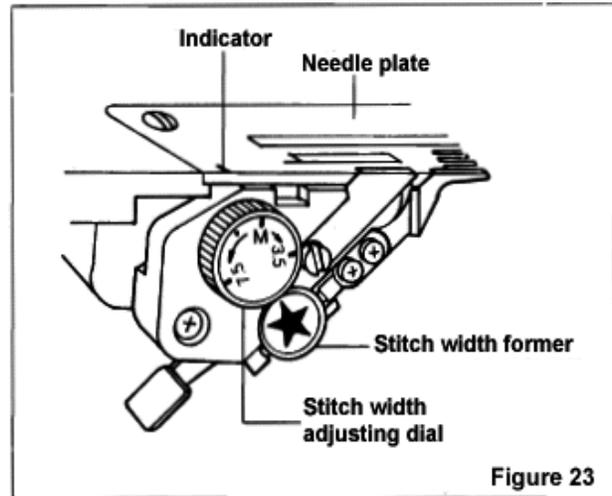

Figure 23
4. Turn the red stitch width dial away from you until the desired stitch width number is aligned with the indicator on the needle plate. (Figure 23).